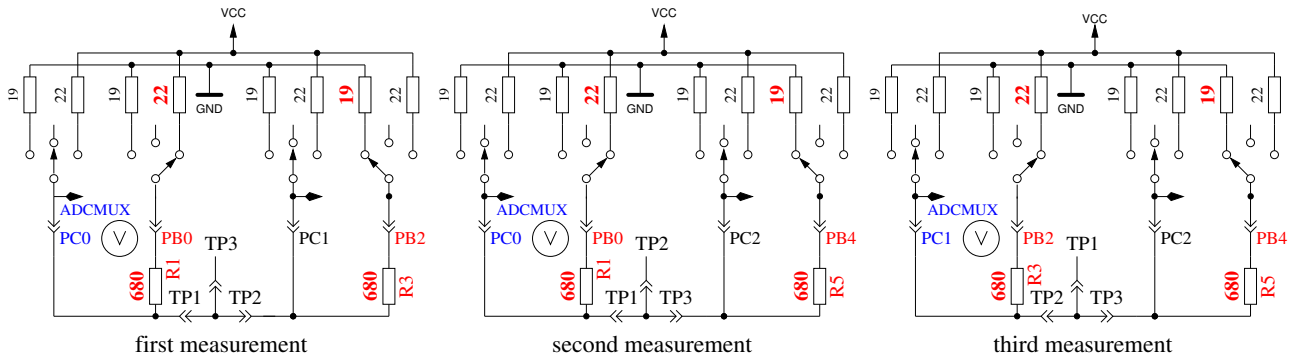

Figure 5.59. Comparison of 680Ω resistors
2. **Comparing of the 680Ω resistors.** In row 1 the cryptic text "+RL- 12 13 23" is shown. Meaning of this is as follows: The RL is the short form of Resistor Low meaning the 680Ω resistors. The 12 stand for: resistor at pin 1 is connected to VCC (+) and resistor at pin 2 is connected to GND (-). The result of this measurement is displayed in row 2 at the first place as difference to the theoretical value. In row 1 follows now a "13" which means, that the first connection of measurement 1 is still connected with 680Ω to VCC but that the resistor of pin 3 is connected to GND. The result is displayed in the middle place of row 2 as difference to the theoretical value. The last measurement of this test "23." means that now the resistor at pin 2 is connected to VCC (+) and the resistor of pin 3 is connected to GND. The result of measurement is displayed at the last place of LCR row 2 as difference to the theoretical value. Please remember, that the resolution of the ADC is about 4.88mV! The measurement situation is also shown in figure 5.59. The theoretical value with respect to the internal resistance of the pins should be: $\frac{5001 \cdot (19+680)}{(19+680+680+22)} = 2493$.